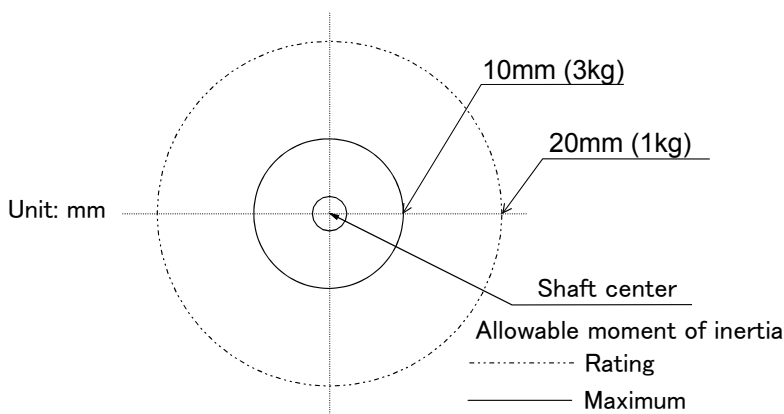

Fig.2-6 : Position of center of gravity for loads (for loads with comparatively small volume)
- (1) The tooling should have the value less or equal than the smaller of the tolerable inertia and the tolerable moment found in Page 7, "2.1.1 Basic specifications".
- (2) Fig. 2-6 shows the distribution dimensions for the center of gravity in the case where the volume of the load is relatively small. Use this figure as a reference when designing the tooling. Please use the robot in the allowable moment of inertia of maximum moment of inertia shown in Fig. 2-6, when loading mass is maximum (3kg).